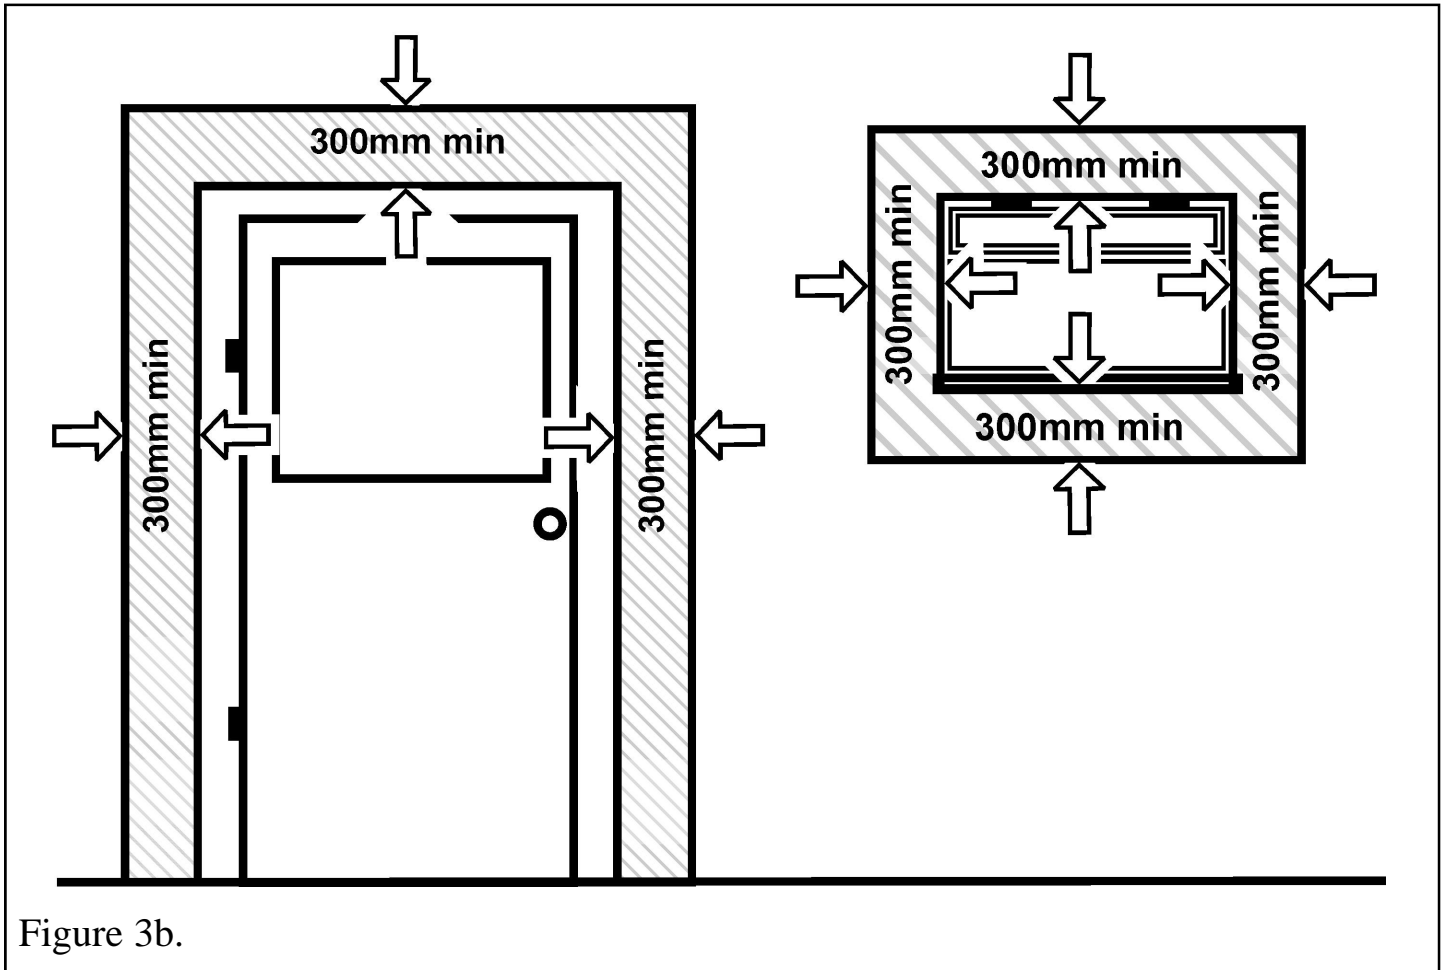

Figure 3b.
*In addition, the terminal should not be nearer than 300mm to an opening in the building fabric formed for the purpose of accommodating a built-in element such as a window frame or door frame (See figure 3b).